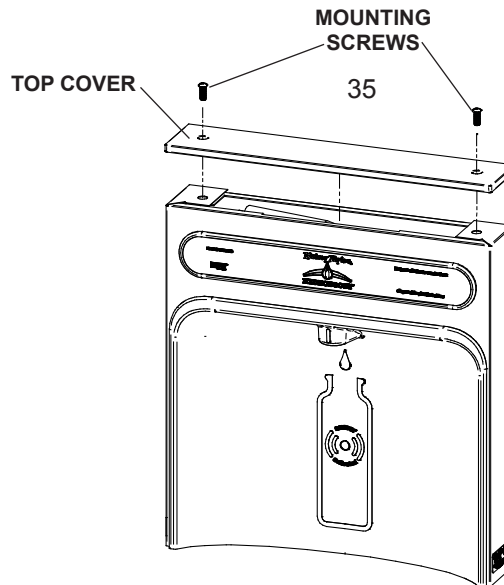
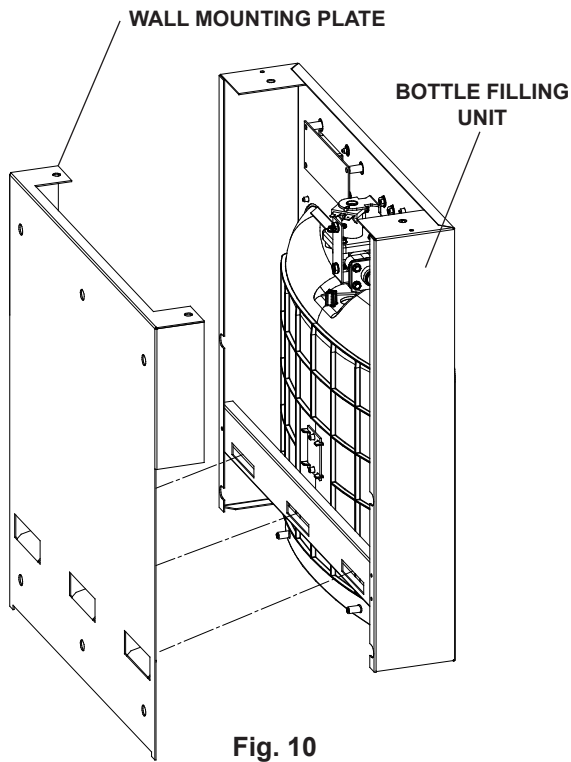

Fig. 7
Fig. 10
- 8) With the power cord and waterline through hole on top of water cooler place Bottle Filler on the three (3) angled tabs protruding from the wall mounting plate installed on wall. Make sure round boss in gasket fits in hole of basin. (See Fig. 10).
- 9) Once Bottle Filler is installed on wall plate tabs, water line and power cord are installed properly, push top of Bottle Filler toward wall and line up top cover two (2) holes.
- 10) Reinstall Top Cover on Bottle Filler (See Fig. 7) with two mounting screws from step 1 above. Caution, do not over tighten screws.